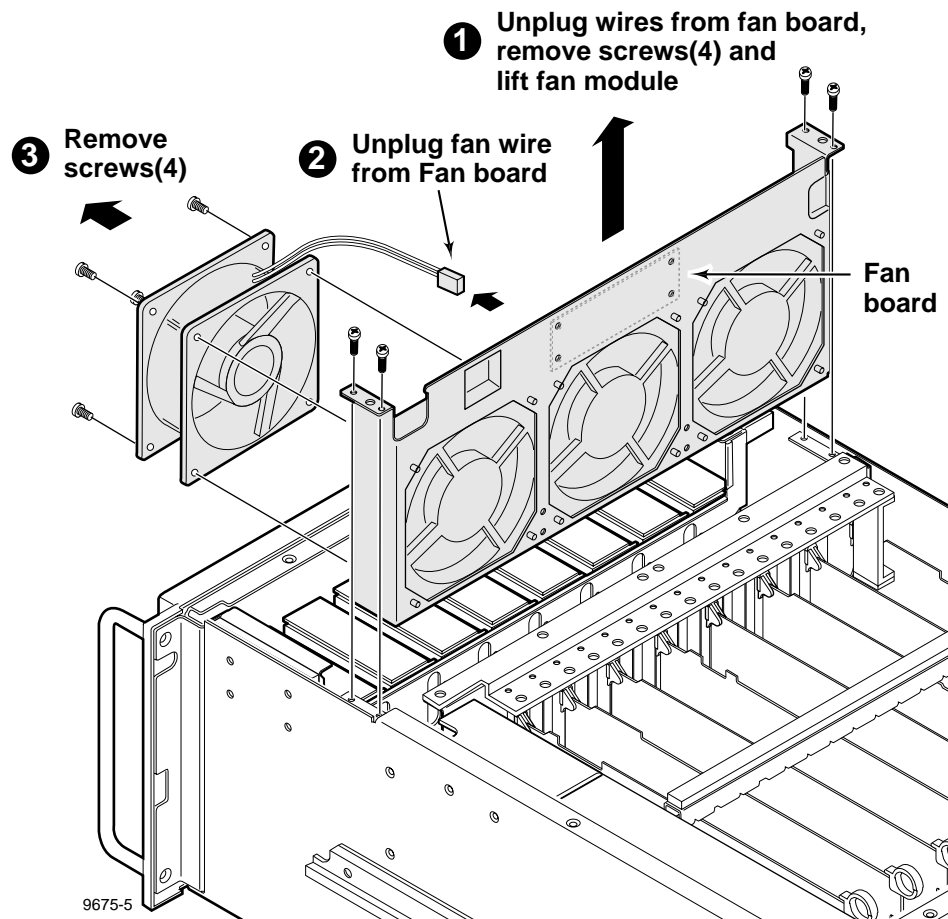

Figure 6-11. Removal of Fan Tray and Fan
4. Use the Torx tool with the T15 tip to remove the four screws (two on each side) which secure the fan tray to the chassis (1 in Figure 6-11).
5. Disconnect all cables to the Fan board (1 and 2 in Figure 6-11).
2. Use the Torx tool with the T15 tip to secure the fan tray to the chassis with the four screws previously removed (Figure 6-11).
2. Disconnect the appropriate fan cable connector from the Fan board on the fan tray (2 in Figure 6-11, page 6-19).
3. Use the Torx tool with the T15 tip to remove the four screws which attach the fan to the fan tray (3 in Figure 6-11).
2. Use the Torx tool with the T15 tip to remove the screws which attach the Fan board to the fan tray (Figure 6-11, page 6-19).